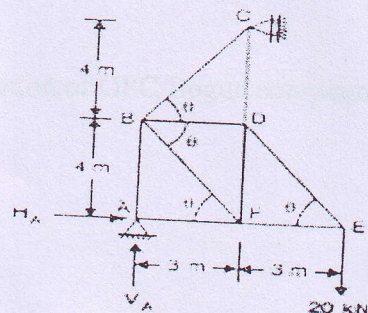

Figure: 4 OR Q: 5(B)
Q.5 A A hollow cast iron column having internal diameter $0.7 \times$ external diameter. If the length of this column is 6m and both of its ends are fixed, and it can carry safe load 300 kN with factor of safety 4. Determine minimum diameter of column with Rankine's formula. Take $f_c = 550 \text{ N/mm}^2$ and $a = 1/1600$ in Rankine's formula. (05)
B Find out the force in the member BC and ED of truss as shown in figure 4. Using method of joint. (05)
Q.6 A At a point in a strained material is subjected to a tensile stress of 120 MPa and a clockwise shear stress of 40 MPa. What are the values of normal and shear stresses on a plane inclined at 25° with the normal to tensile stress by analytical method. (06)